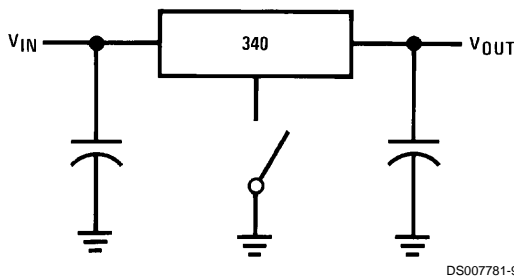

FIGURE 2. Regulator Floating Ground
**Regulator Floating Ground (Figure 2):** When the ground pin alone becomes disconnected, the output approaches the unregulated input, causing possible damage to other circuits connected to  $V_{OUT}$ . If ground is reconnected with power “ON”, damage may also occur to the regulator. This fault is most likely to occur when plugging in regulators or modules with on card regulators into powered up sockets. Power should be turned off first, thermal limit ceases operating, or ground should be connected first if power must be left on.